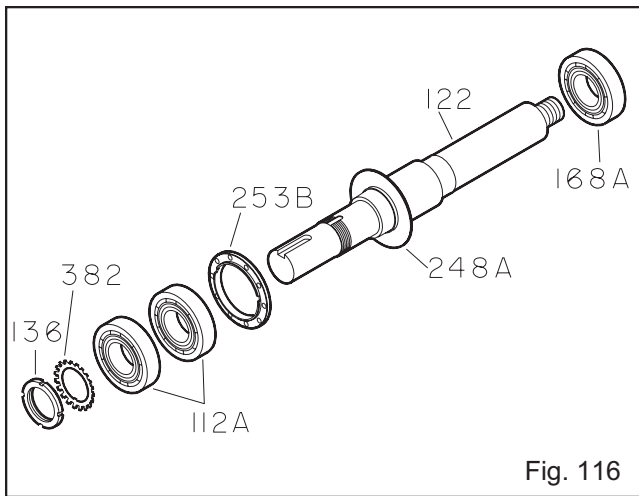

Fig. 116
2. Attach bearing frame foot (241) with bolts (370F). Hand tighten.
3. Install oil flinger (248A) on shaft (122) if removed (Fig. 116).
4. Place bearing clamp ring (253B) over shaft (122). Note orientation.
5. Install outboard bearings (112A) on shaft (122).